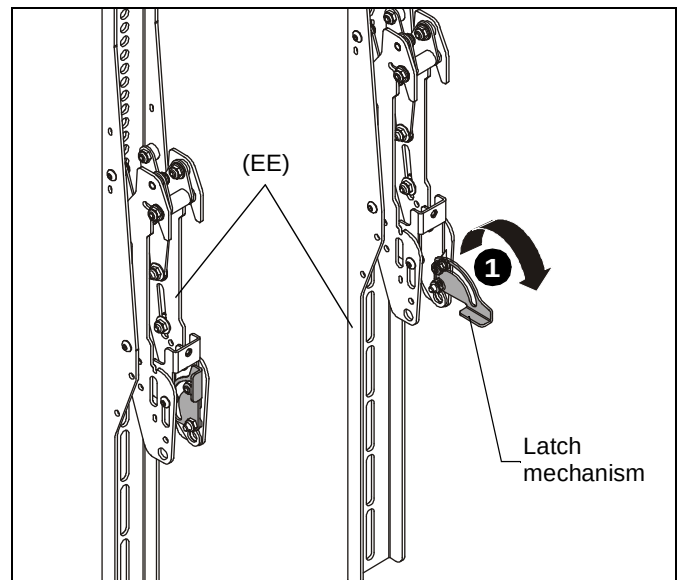

Figure 7
1. Lower the latch mechanism on each interface bracket (EE). (See Figure 7)
- Ensure that the latch mechanisms on interface brackets (EE) are already lowered. (See Figure 7)